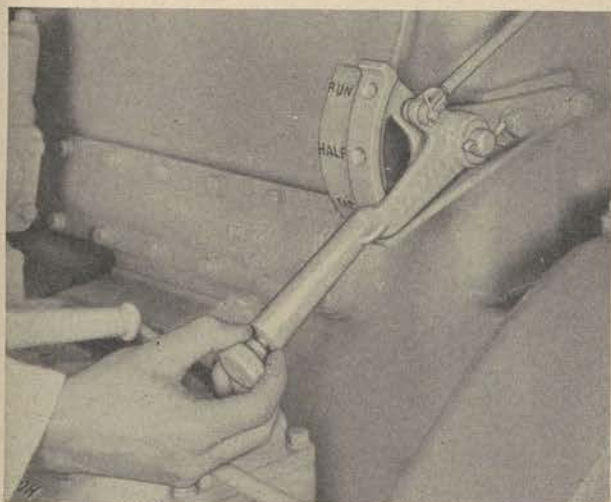

Figure 69. Compression release lever in start position.
(1) See that the compression release lever is in the START position, as shown in figure 69, and that the throttle is locked in the extreme right position, so that the fuel injection pumps are shut off.
a. **STOPPING MAIN ENGINE.** Disengage the load from the engine by pushing the clutch lever in the direction opposite to that shown in figure 73 (away from galley). Set the throttle to halfway position and allow engine to idle at this speed for at least five minutes. Then move the throttle lever to STOP position. Shift the compression release lever to the START position. (See fig. 69.) Do not close the main fuel tank valve. If the temperature is below freezing, or if there is a possibility of freezing weather before engine will be started again, drain the cooling system or protect with antifreeze solution (par. 24).